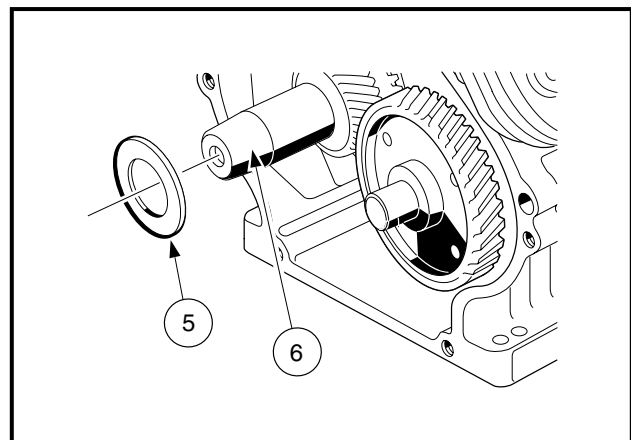

Figure 13-98 Install Shim On Crankshaft
5. Install the shim (5) on the crankshaft (6) (Figure 13-98, Page 13-45).